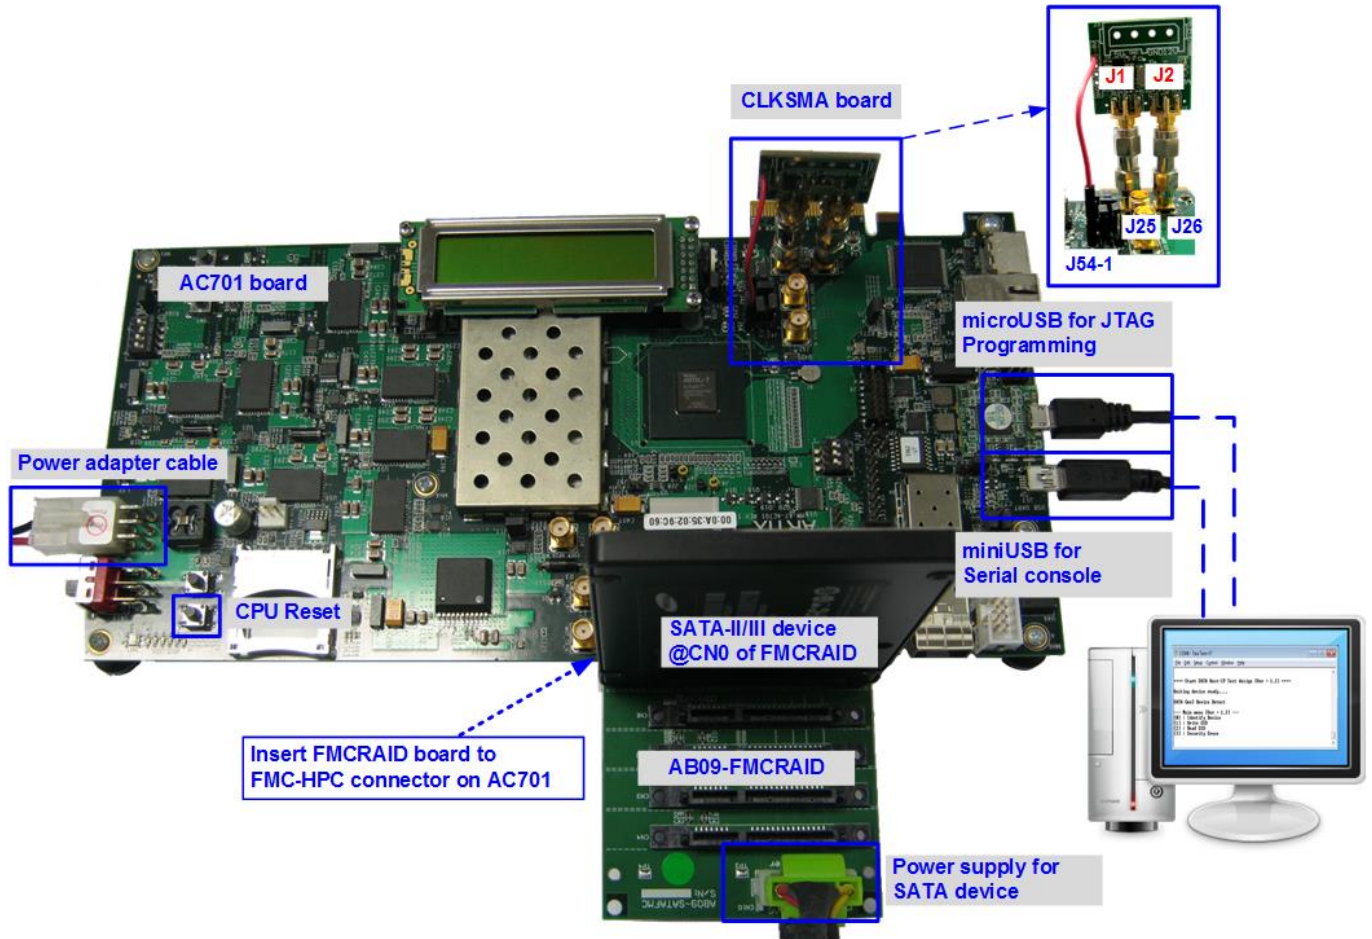
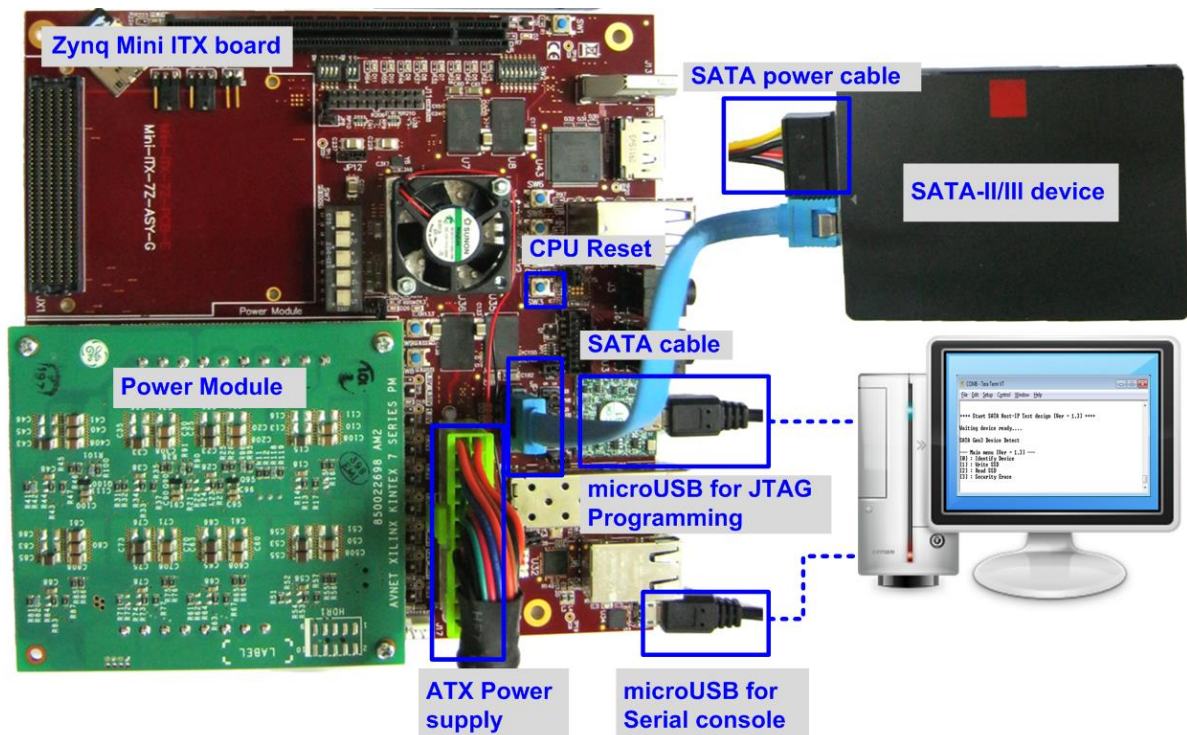

Figure 1-1 HCTL-IP demo setup on AC701
Figure 1-9 HCTL-IP demo setup on Zynq Mini-ITX
- i. Connect AB09-FMCRAID board to FMC connector on Xilinx board following Figure 1-1 - Figure 1-9.